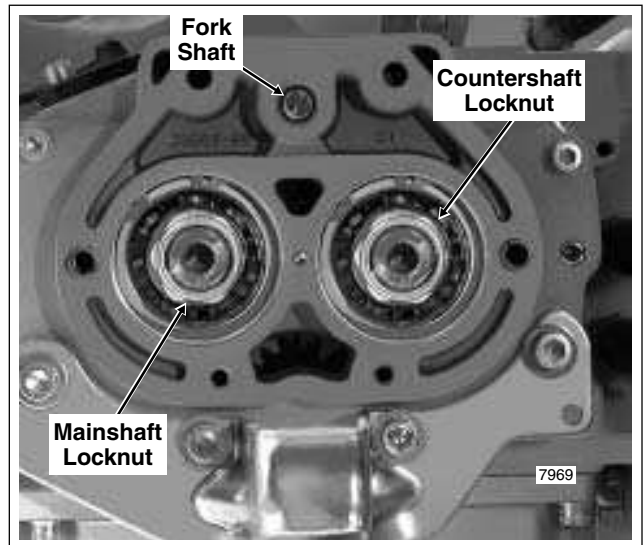

Figure 7-18. Remove Mainshaft/Countershaft Locknuts
8. Remove the locknut from both the mainshaft and countershaft. Use an air impact wrench for best results. See **Figure 7-18**. Remove the spacer from each shaft.